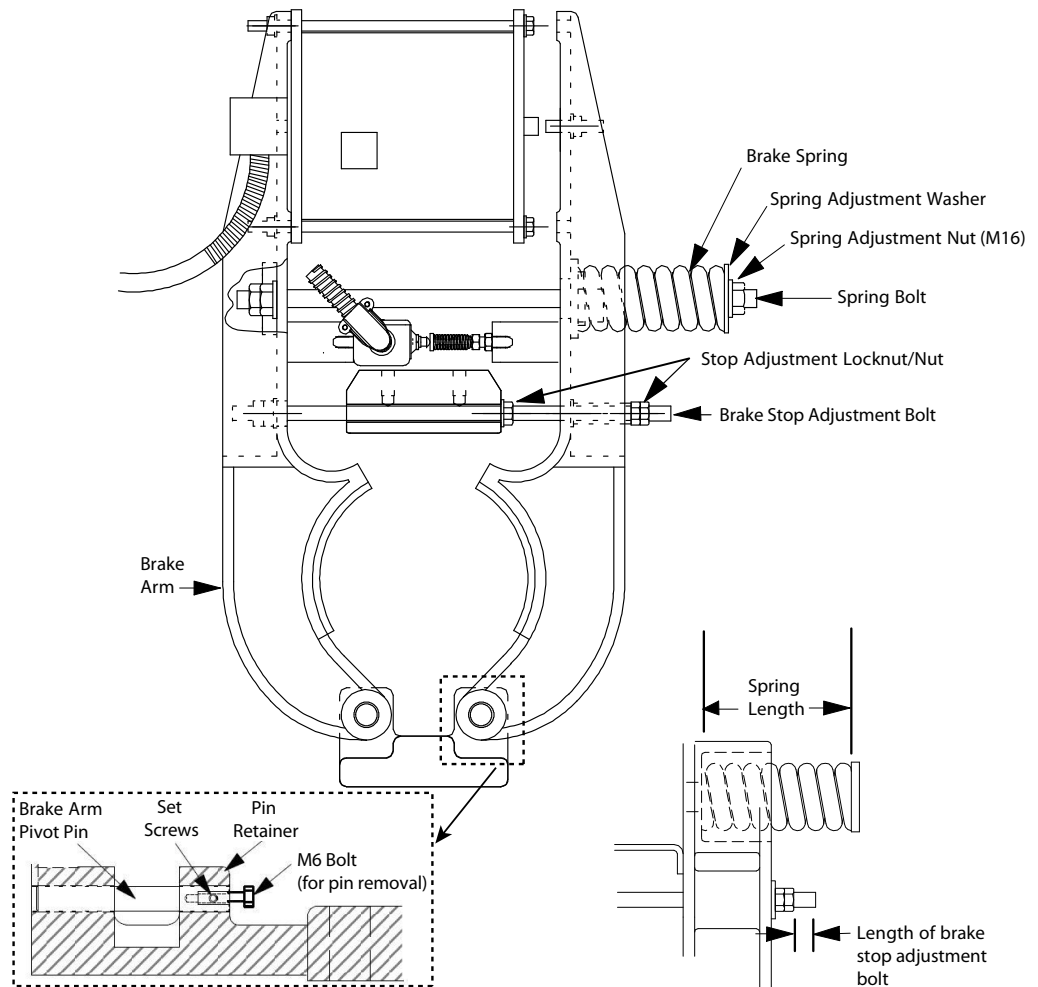

Figure 44 - Brake Assembly
2. Measure and record the brake spring length, from between the spring's flat to flat. See Figure 44 on page 66 for the remaining steps in this procedure.